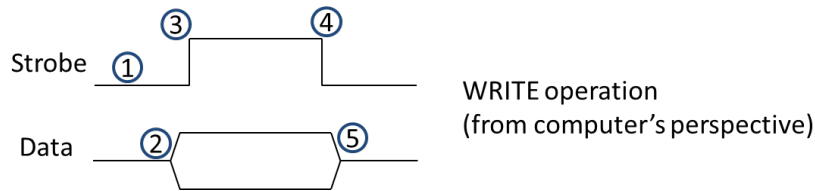

Figure 1. Write operation on the bus
The PIC microcontroller on the sensor device is connected to the embedded computer through the GPIO port. A viable pin assignment is shown in Figure 1 although there can be certainly other possible assignments. Over the GPIO port, five signal lines (D3-D0 and Strobe) are available. The data bus (D3-D0) is **4-bit**. The control signal is **Strobe** driven by the Galileo board to synchronize the information exchange between the sensor device and the embedded system.
The steps (in Figure 1) involved in the write operation are as follows.
1. Design a user space application on Yocto Linux to directly access the GPIO port of an Intel Galileo board and control the Strobe signals and data bus as described in Figures 1 and 2.
3. Design firmware for the PIC microcontroller on the sensor/motor controller device to support the read and write operations as described in Figures 1 and 2. PIC automation system should be able to accept commands from Galileo Board and executing actions on PIC (turning the Servo Motor Blade to certain degree) , responding back to the appropriate command with an ADC value or ACK or NOTHING message.